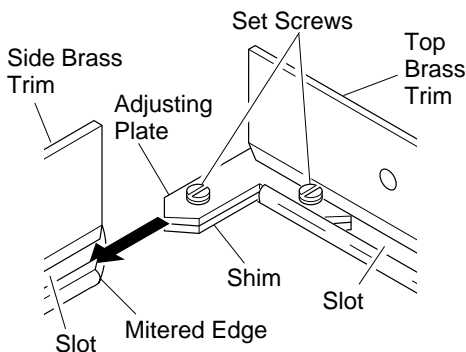

Figure 36 - Assembling Brass Trim
3. Align shim under adjusting plate as shown in Figure 36.
4. Slide one end of adjusting plate/shim in slot on mitered edge of top brass trim (see Figure 36).
5. Slide other end of adjusting plate/shim in slot on mitered edge of side brass trim (see Figure 36).